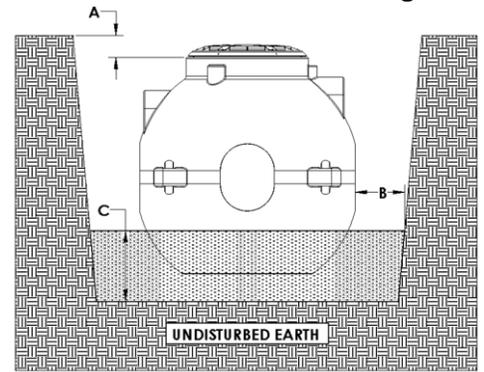

Figure 2
**3. Lid and Manhole Extension [Figure 2]**